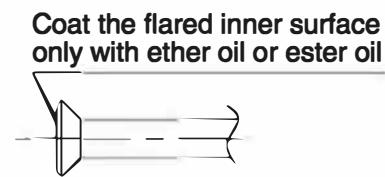

Fig. 15
- When making a flare connection, coat the flared inner surface only with ether oil or ester oil. (Refer to Fig. 15) Then, turn the flare nut 3 to 4 times with your hand and screw in the nut.